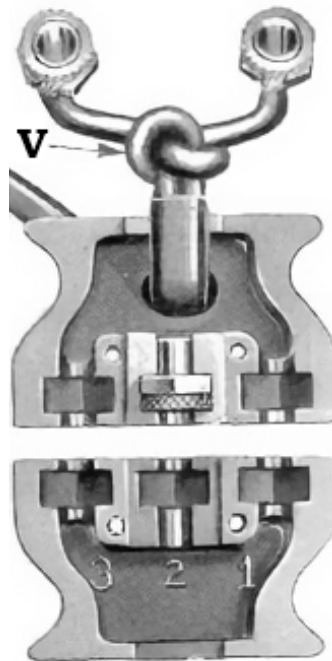
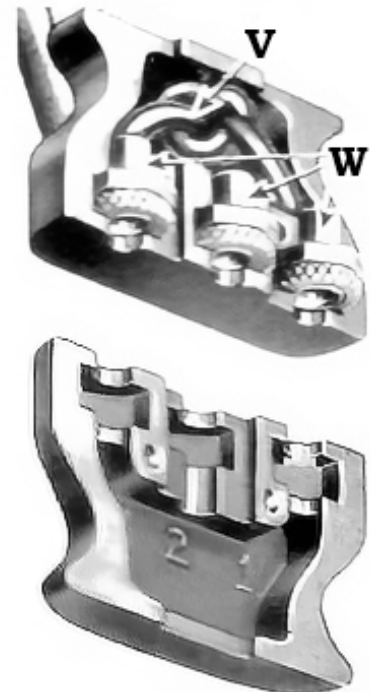
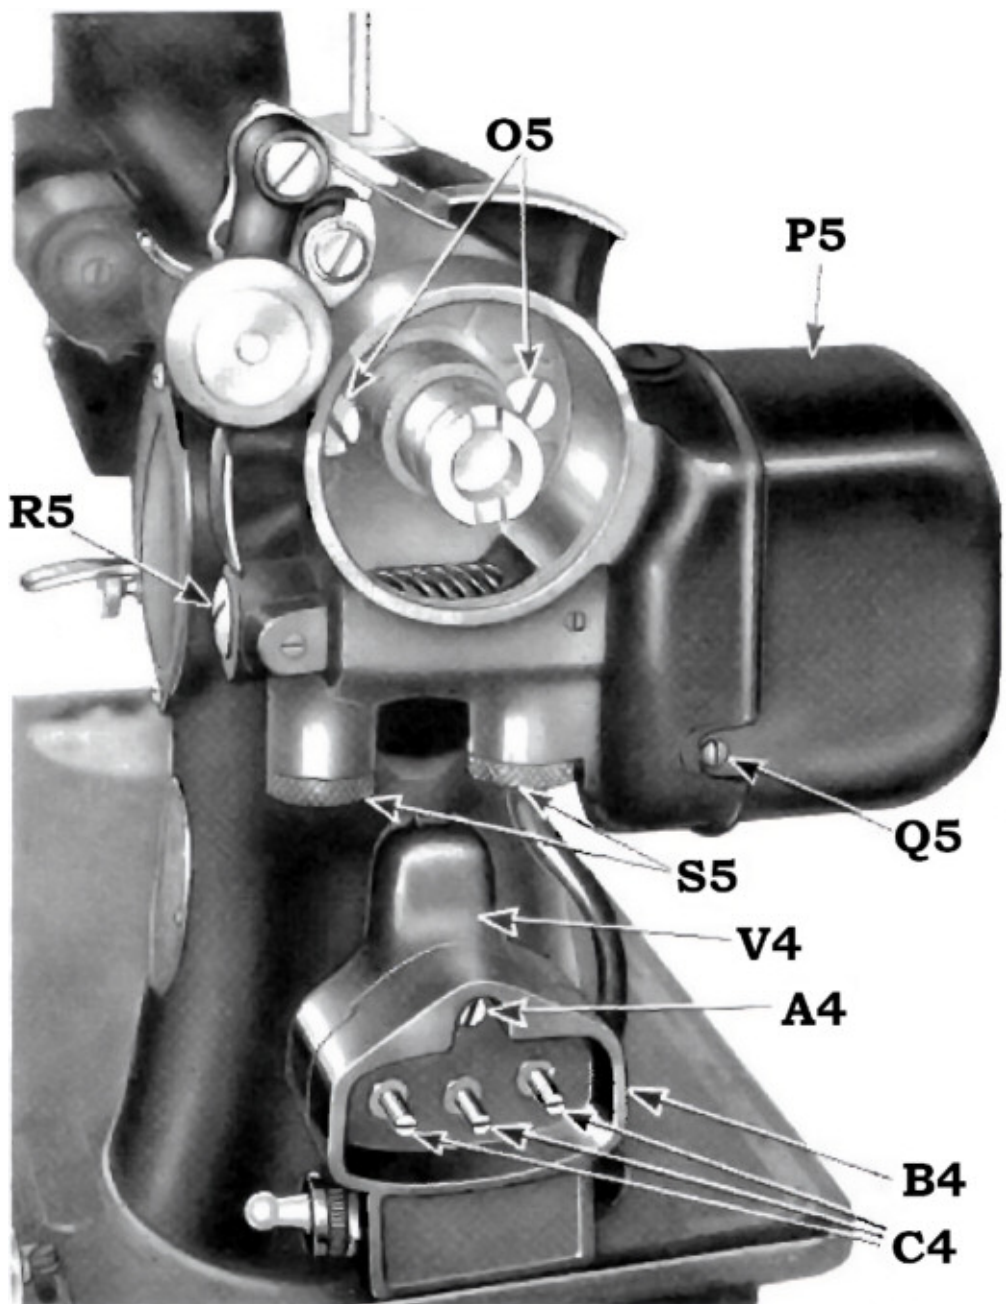
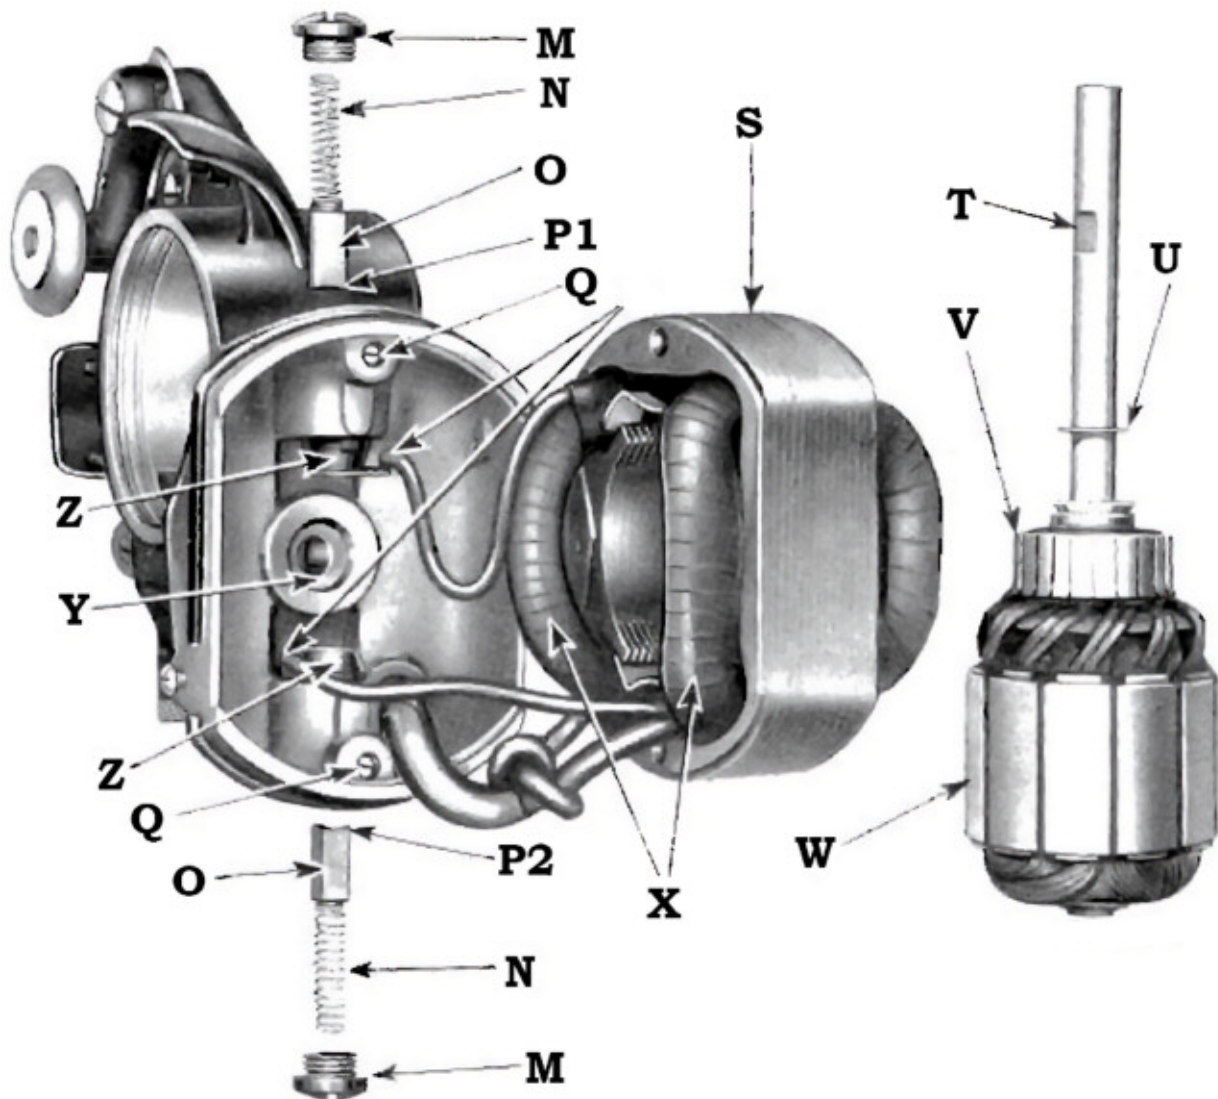

FIG. 13. TERMINAL PLUG CONNECTIONS REMOVED
FIG. 14. TERMINAL PLUG CONNECTIONS IN PLACE
FIG. 15. MACHINE 201-2 AND MOTOR
FIG. 17. MOTOR DISASSEMBLED
Inspect the soldered connections (R, Fig. 17) at the brush tubes. See "Replace Field Core with Coils," page 23. Replace the motor as instructed on page 25.
**Three-Pin Terminal Plug**, shown in Figs. 13 and 14, has three sleeves (W, Fig. 14) which are engaged by the three pins (C4, Fig. 15) when the plug is pushed into the three-pin terminal block (B4, Fig. 15).
Make sure that these connections are tight and that the hexagon heads of these sleeves are properly seated in the plug, as shown by Fig. 14.
Note that the two wires are knotted together as shown by (V, Figs. 13 and 14). This is to prevent strain or breakage in case the plug is pulled from the three-pin terminal by grasping the wires instead of the plug. Therefore, the knot is placed so that it, instead of the connections, bears the strain when the plug is drawn from the terminal.
Take out screw (A4, Fig. 15) and remove the three-pin terminal (B4) from the terminal bracket (V4).
**Remove Motor Cover.** Loosen the two screws, one of which is shown at (Q5, Fig. 15) and remove motor cover (P5, Fig. 15) by pulling and, at the same time, rocking it up and down slightly, being careful to prevent inside of cover damaging the field coils.
**Remove Brushes—Machine 201-2.** Take out screw caps (M, Fig. 17). When the screw caps are removed, the brush springs may protrude from the screw holes, and brushes can then be easily withdrawn. However, should difficulty be experienced in removing the brushes, this can be done conveniently after removal of the armature in accordance with “Remove Armature” following. It is advisable to make the brushes at (P1 and P2, Fig. 17) to make sure that they will be replaced in the same relative position as before removal.
If wiring is not damaged, clean commutator (V, Fig. 17) with a dry, clean cloth before assembling motor. If it is impossible to get the commutator bright by this means, use an ordinary rubber eraser. **Never use anything else on a small motor commutator.**
**Remove the Field Core with Coils—Machine 201-2.** Loosen the two screws (A, Fig. 16) and remove the field core (S, Fig. 17) from the commutator end cover which, in this case, is part of the motor frame. The removal of the field core must be done carefully to prevent damage to the field coil insulation, and to prevent strain at the soldered brush tube connections (R, Fig. 17).
**Clean Brushes and Brush Tubes—Machine 201-2.** Thoroughly clean the carbon brushes (O, Fig. 17), inner walls of brush tubes and inside of end covers, with a dry, clean cloth.
**Inspect Wire Connections to Brush Tubes—Machine 201-2.** Examine both field wire connections (R, Fig. 17) at the brush tubes. If broken, these connections should be securely soldered to the lugs of the brush tubes. Any loose strands of wire should be cut off.
**Remove and Replace the Brush Tubes—Machine 201-2.** After the brushes and brush tubes have been cleaned, the brushes should slide freely in the brush tubes. If they do not, the brush tubes should be replaced by new ones. The new brush tubes must be replaced in the same manner as the old tubes, viz., firmly positioned in the insulating bushings (Z, Fig. 17), and with the field leads properly soldered to the lugs of the new tubes, as shown by (R, Fig. 17).
**Remove and Replace Insulating Bushings—Machine 201-2.** If the threads in the insulating bushings (Z, Fig. 17) and on screw caps (M, Fig. 17) become stripped, these parts should be replaced by new ones. When these bushings require replacement, the brush tubes also should be replaced with new ones. Do not attempt to use the old brush tubes in the new bushings. Loosen the two screws at (Q, Fig. 17) to release the bushings (Z, Fig. 17). When the new bushings are in place, tighten the screws (Q, Fig. 17).
**Replace the Field Core with Coils.** After the insulating bushings are replaced, the field coil wires properly soldered to the brush tubes as shown at (R, Fig. 17) and brush tubes in place in insulating bushings (Z, Fig. 17), put field core (S, Fig. 17) in place on commutator end cover, being careful not to damage field coil insulation. When the field core is properly seated on commutator end cover, insert and tighten screws (A, Fig. 16).
When the armature was removed, as instructed on page 22, the spring-pressured grease wick for each of the two bearings (Y) projected into the shaft bearings. Therefore, before replacing the armature and shaft, remove the two grease wicks in order that the armature shaft may be inserted in its bearings without damage to the wicks. To do this, remove cap screws (S5, Fig. 15) and, using a small screw driver, carefully remove the grease wick spring retainer, together with grease wick spring and grease wick from each grease cup.
Put the spiral gear in position between the two bronze shaft bearings (Y, Fig. 16), having the two set screws (E, Fig. 16) toward the cap screw (R5, Fig. 15) in order that one of the two screws (E) can engage the "flat" (T) on the armature shaft. Insert armature (W) so that the fibre washer (U) is against the first of the two shaft bearings (Y, Fig. 17).
Replace the grease wicks, making sure that the inner ends of the wicks are against the armature shaft. Then put the grease wick spring retainers in place in the grease cups, having the tab, at the outer end of each retainer, over the outer end of the grease wick spring. Fill the grease cups and replace cap screws (S5, Fig. 15).
**Replace Brushes – Machine 201-2.** When inserting the brushes in the brush tubes, make sure that their concave ends (P1 and P2, Fig. 17) correspond with the convex surface of the commutator, and that they are replaced in the same relative position as before removal. See "Remove Brushes," page 22. Hold end of brush spring and tap the brush against the commutator until contact is clearly heard. Then insert and tighten the two screw caps (M, Fig. 17), being careful not to strip the threads.
Place the motor frame, with motor, on its seat on the machine arm, and insert and tighten the two screws (O5, Fig. 15). Fasten the three-pin terminal (B4) to its bracket (V4) by means of the screw (A4).
Remove the two cap screws (S5, Fig. 15) from the two grease cups and clean out the interiors of the cups. Insert the tip of the motor lubricant into the grease cups and squeeze about a quarter of the tube of lubricant into each grease cup, then replace and tighten the cap screws (S5, Fig. 15).